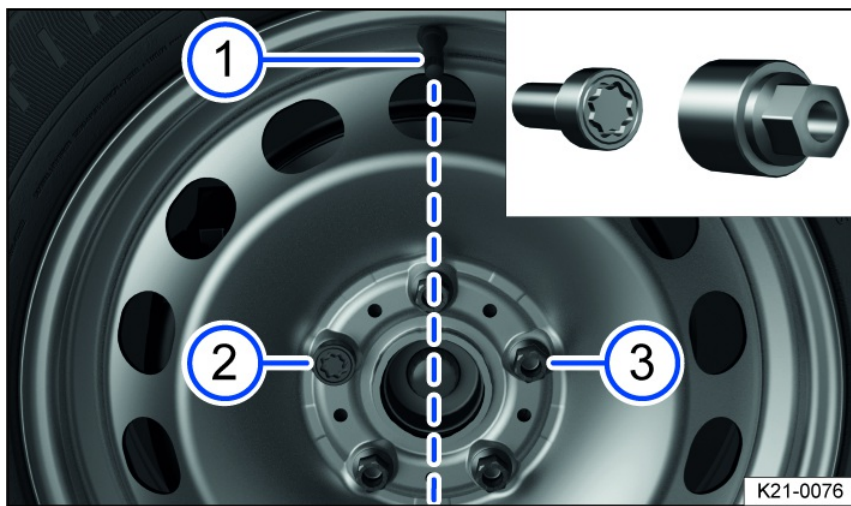

Fig. 169 Changing a tire: tire valve ① and locations of the anti-theft wheel bolt ② or ③.
On wheels with full wheel covers, the anti-theft wheel bolt must be fitted in position *fig. 169* ② or ③, based on the position of the tire valve ①. Otherwise, it will not be possible to install the full wheel cover.